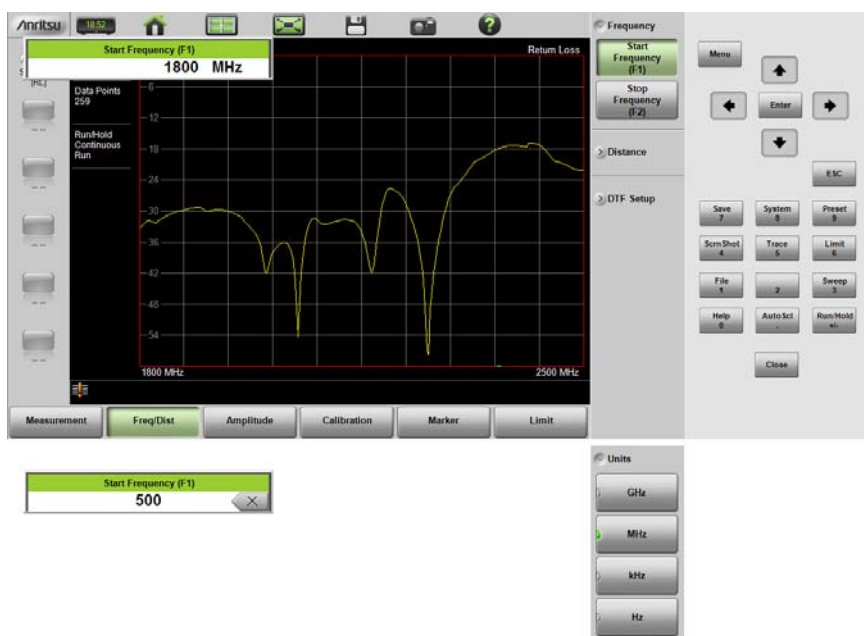

Figure 3-20. Entering Frequency Setting
2. Press the Start Frequency submenu key and use the virtual keypad to enter the value in the edit box. See Figure 3-20.